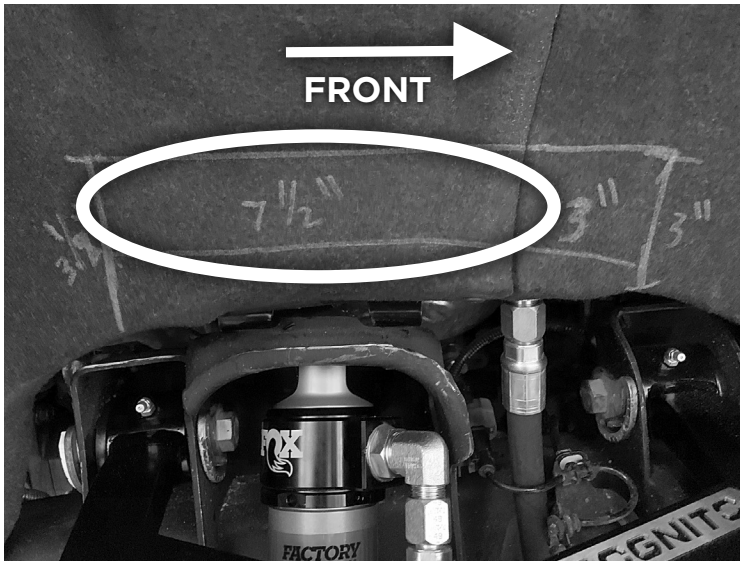

Figure 2: Passenger side shown
5. Draw a 7-1/2" line that starts from the seam and goes towards the rear of the vehicle (Figure 2).